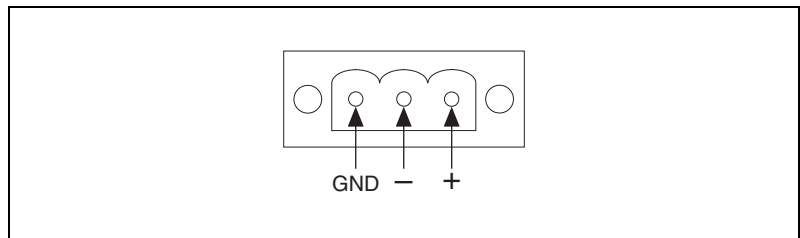

Figure 2-2. Power Receptor and Pin Assignment
4. Connect the power connector to the power receptor on the TPC-2012/TPC-2512. The power receptor pin assignment is shown in Figure 2-2.